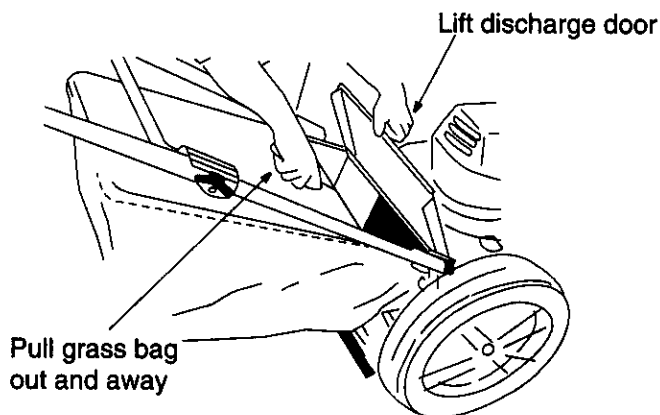

FIGURE 6
- Place the hooks of the grasscatcher into the slots in the handle bracket assemblies on both sides. See Figure 6. Release the rear discharge door.